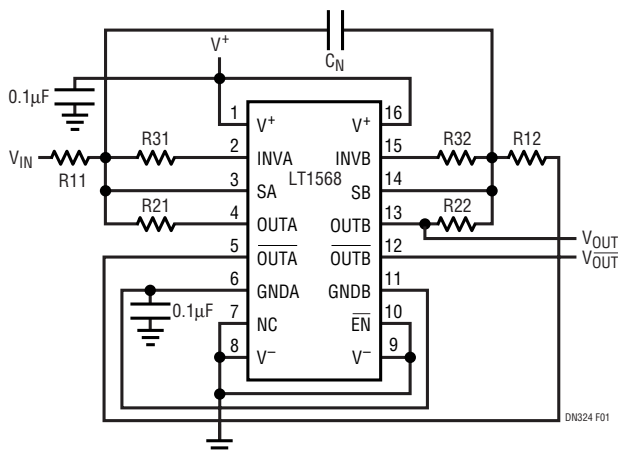

Figure 1. A 4th Order Elliptic Lowpass Filter Circuit (Single Supply Operation)
The unique architecture of the LT1568 allows the addition of a notch by simply adding an external capacitor between the summing node of the first stage (SA) and the summing node of the second stage (SB), as shown in Figure 1. Capacitor  $C_N$  and resistor R12 are the only external passive components affecting the accuracy and repeatability of the notch frequency. A 4th order  $\pm 0.25$ dB passband lowpass filter with one stopband notch and equal value resistors is designed as follows: